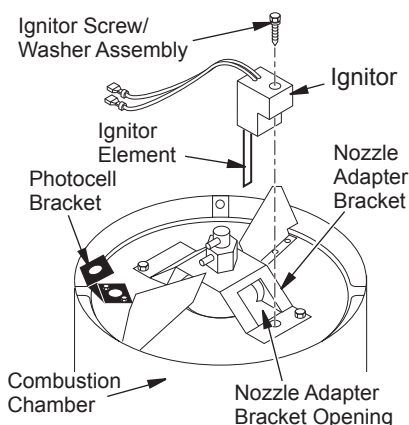

Figure 21 - Ignitor HA1000 Replacement
6. Remove combustion chamber. Stand combustion chamber on end with nozzle adapter bracket on top (see Figure 21 or 22).